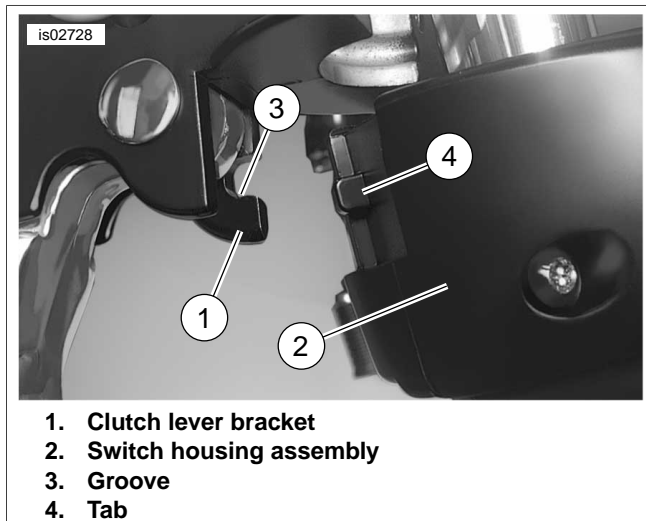

Figure 9. Positioning Clutch Lever Bracket with Left handlebar Switch Housings
6. Verify that the wire harness conduit (6) runs in the groove at the bottom of the handlebar. Be sure that the upper switch housing harness will not be pinched under the handlebar when the switch housing screws are tightened.
8. See Figure 9. Position the clutch hand lever assembly inboard of the switch housing assembly engaging the tab on the lower switch housing in the groove at the bottom of the clutch lever bracket. Be sure that harness will not be pinched when installing handlebar clamp. Harness should reside in recess between handlebar clamp and clutch lever bracket.